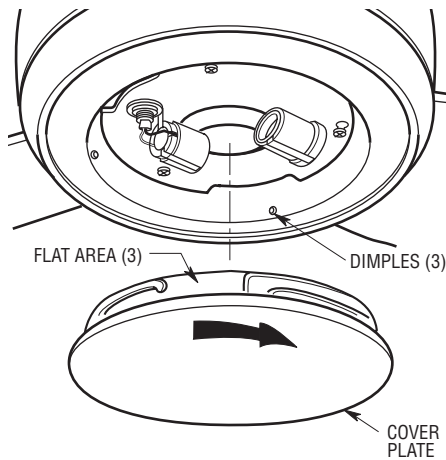

Figure 17
- 1. Place the cover plate onto the lower housing aligning the three flat areas on the top flange of the cover plate with the three pins on the inside of the fan motor housing assembly (Figure 17). Then turn the cover plate clockwise until it stops turning.